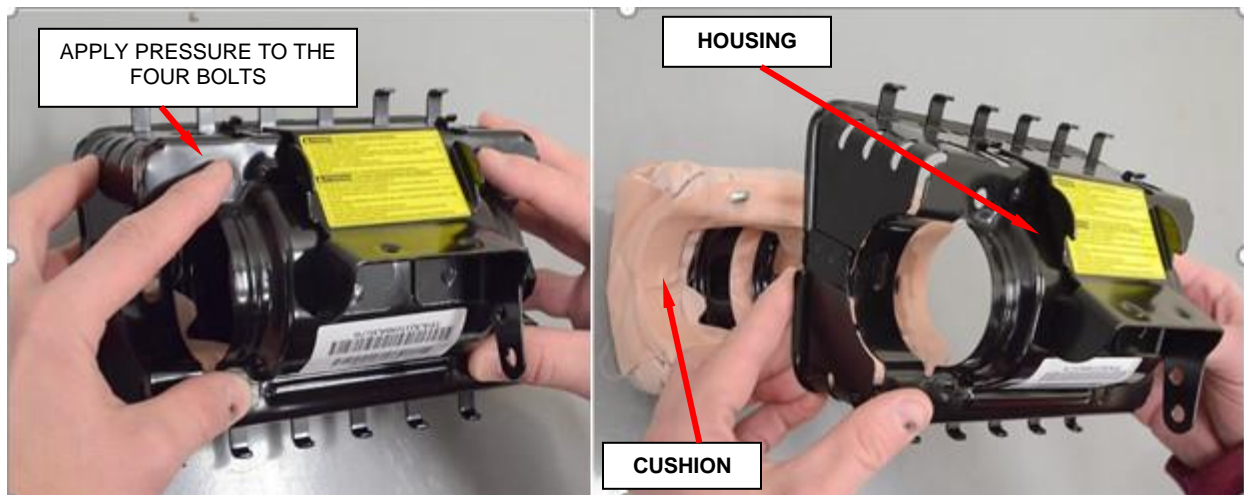

Figure 25 – Remove Airbag Cushion from Housing
- h. Remove airbag cushion from housing by applying pressure to the bolts, set cushion aside (Figure 25).